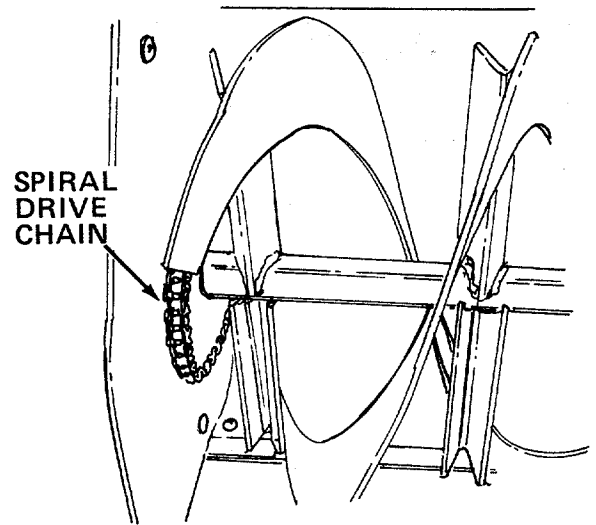

FIGURE 26
1. Spiral drive chain: Lubricate chain every 40 hours with No. 30 oil. It is important that oil reaches inside each roller. Wipe off excess oil from chain. See figure 26.